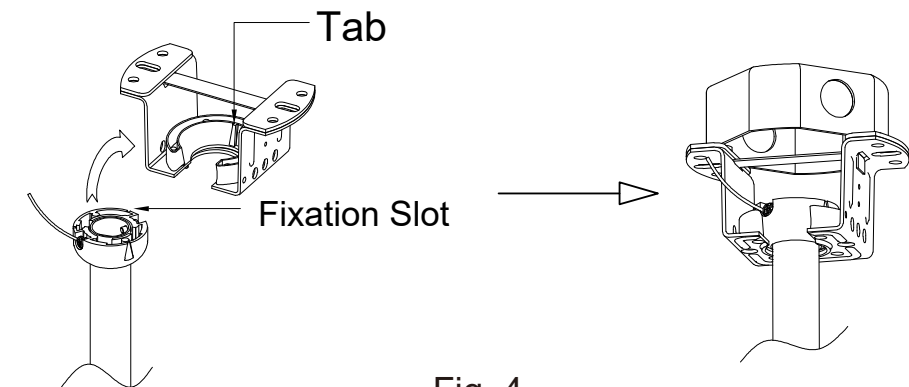

Fig. 4
- Check that the hanger ball is properly seated. Be sure the fixation slot is locked by the bracket (Fig 4).